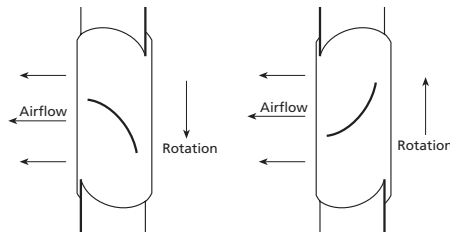

Figure 4
2. Check wheel rotation by momentarily energizing the unit. Rotation should be in the same direction as the rotation decal affixed to the unit or as shown in Figure 4.